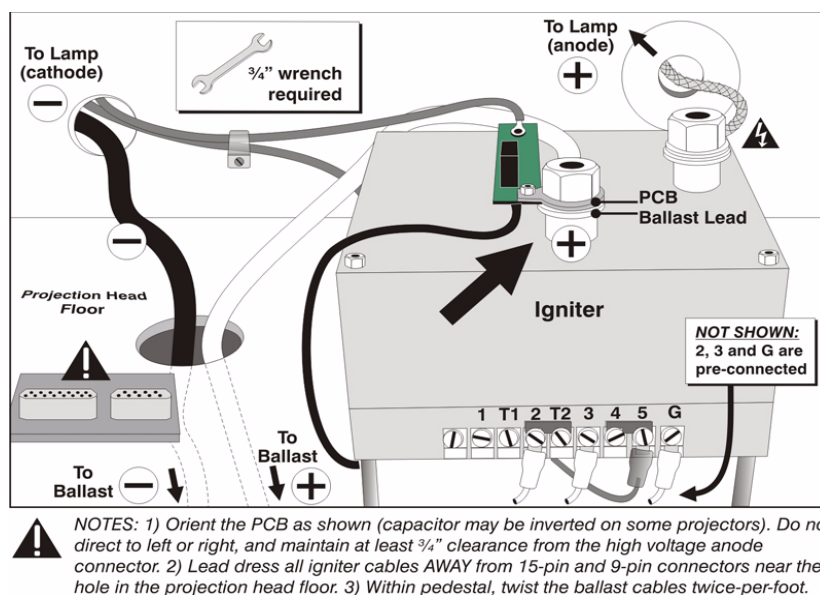

Figure 3-9 Connect Lamp Leads
1. Ensure the igniter door is open. From the ballast in the pedestal, route the main black and white lamp leads through the nearby hole in the underside of the projection head. See **Figure 3-9**.